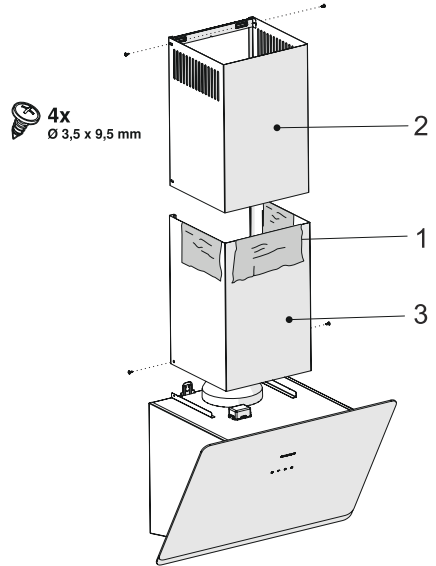

Fig. 14
- If there are protective sheets on the flues, remove them (Fig. 14 / 1).
- By pulling the upper flue upwards and screw to the flue connection plate through the left and the right sides (Fig. 14 /2).
- Mount the lower flue to the body through the left and the right sides. (Fig. 14).